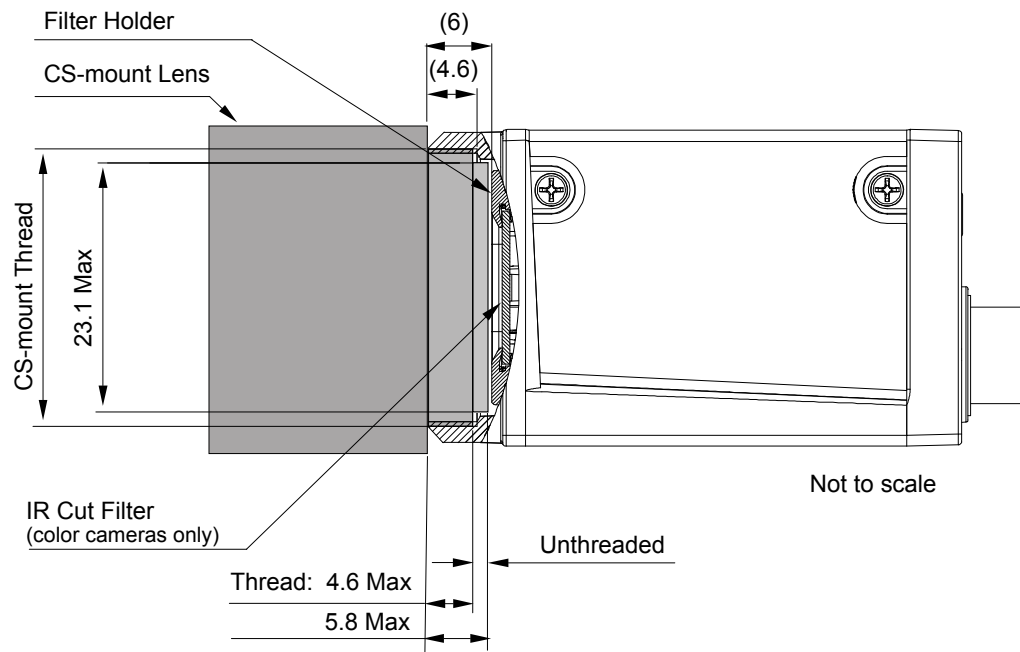

Fig. 35: Maximum Lens Thread Length (Dimensions in mm) for Cameras with the CS-mount Lens Adapter
- Camera with CS-mount lens adapter (see Figure 35):